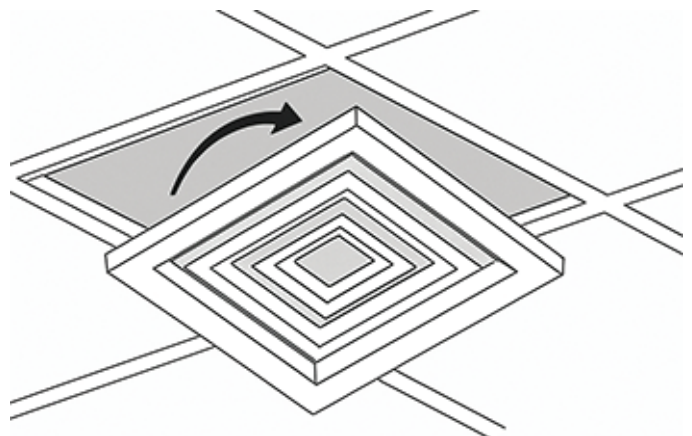

FIGURE 1
- Tilt the diffuser diagonally into the ceiling opening (corner first) and push the diffuser through the opening (**Figure 1**).